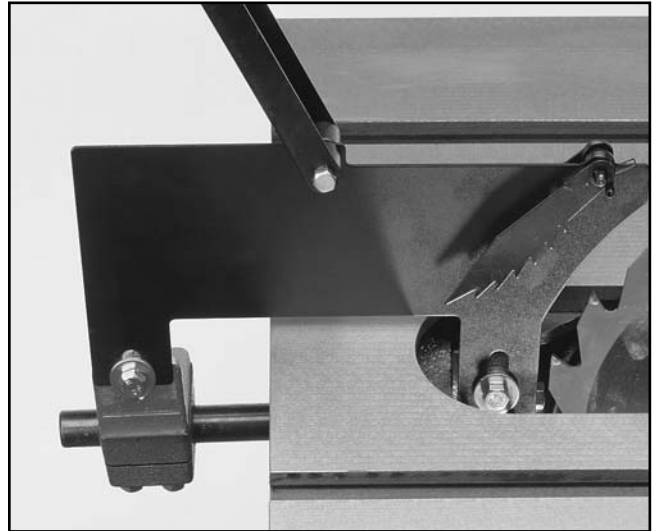

Figure 8.
1. Slip the blade guard/splitter over the mounting bolts. **Figure 8.** The washers should be between the bolt head and the slots. Tighten the bolts to secure the blade guard/splitter.